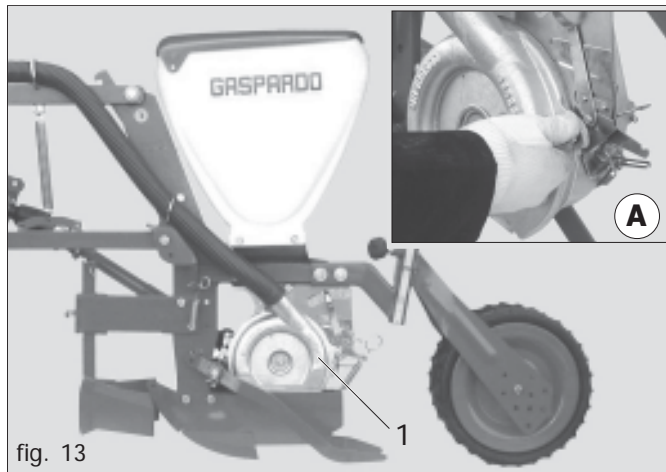

fig. 13
A disk (1 fig. 13), chosen according to the size of the seed, is assembled inside the distributors (the seed should not enter the hole). Should suction cause some seeds to clog the holes of the disk, these will be left on the ground.
- Hand-tighten only the winged nut that closes the cover (A fig. 13).
- 4) Unscrew and remove the winged nut (A Fig.13);